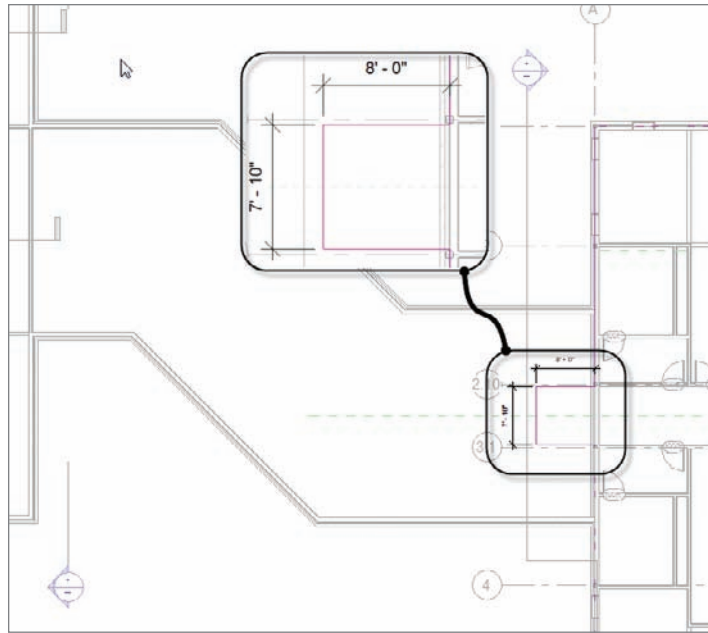

FIGURE 10.33 Creating a landing. We will add a door in a moment.
2. Zoom in on the area between the corridor and the east wing, as shown in Figure 10.33.
5. Sketch a landing that is 8'-0" long × 7'-10" wide, as shown in Figure 10.33.